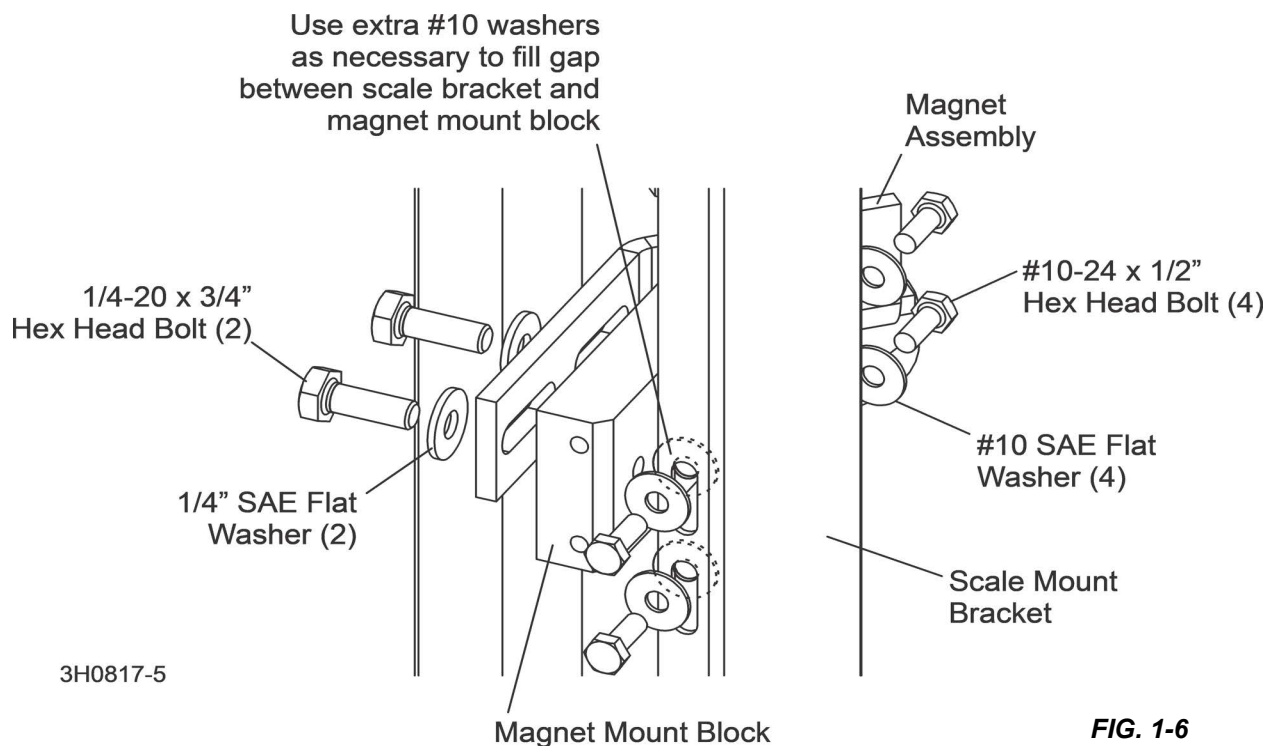

FIG. 1-6
18. Adjust the assembly in the slotted holes so the magnet is centered around the sensor rod. See **Figure 1-6**